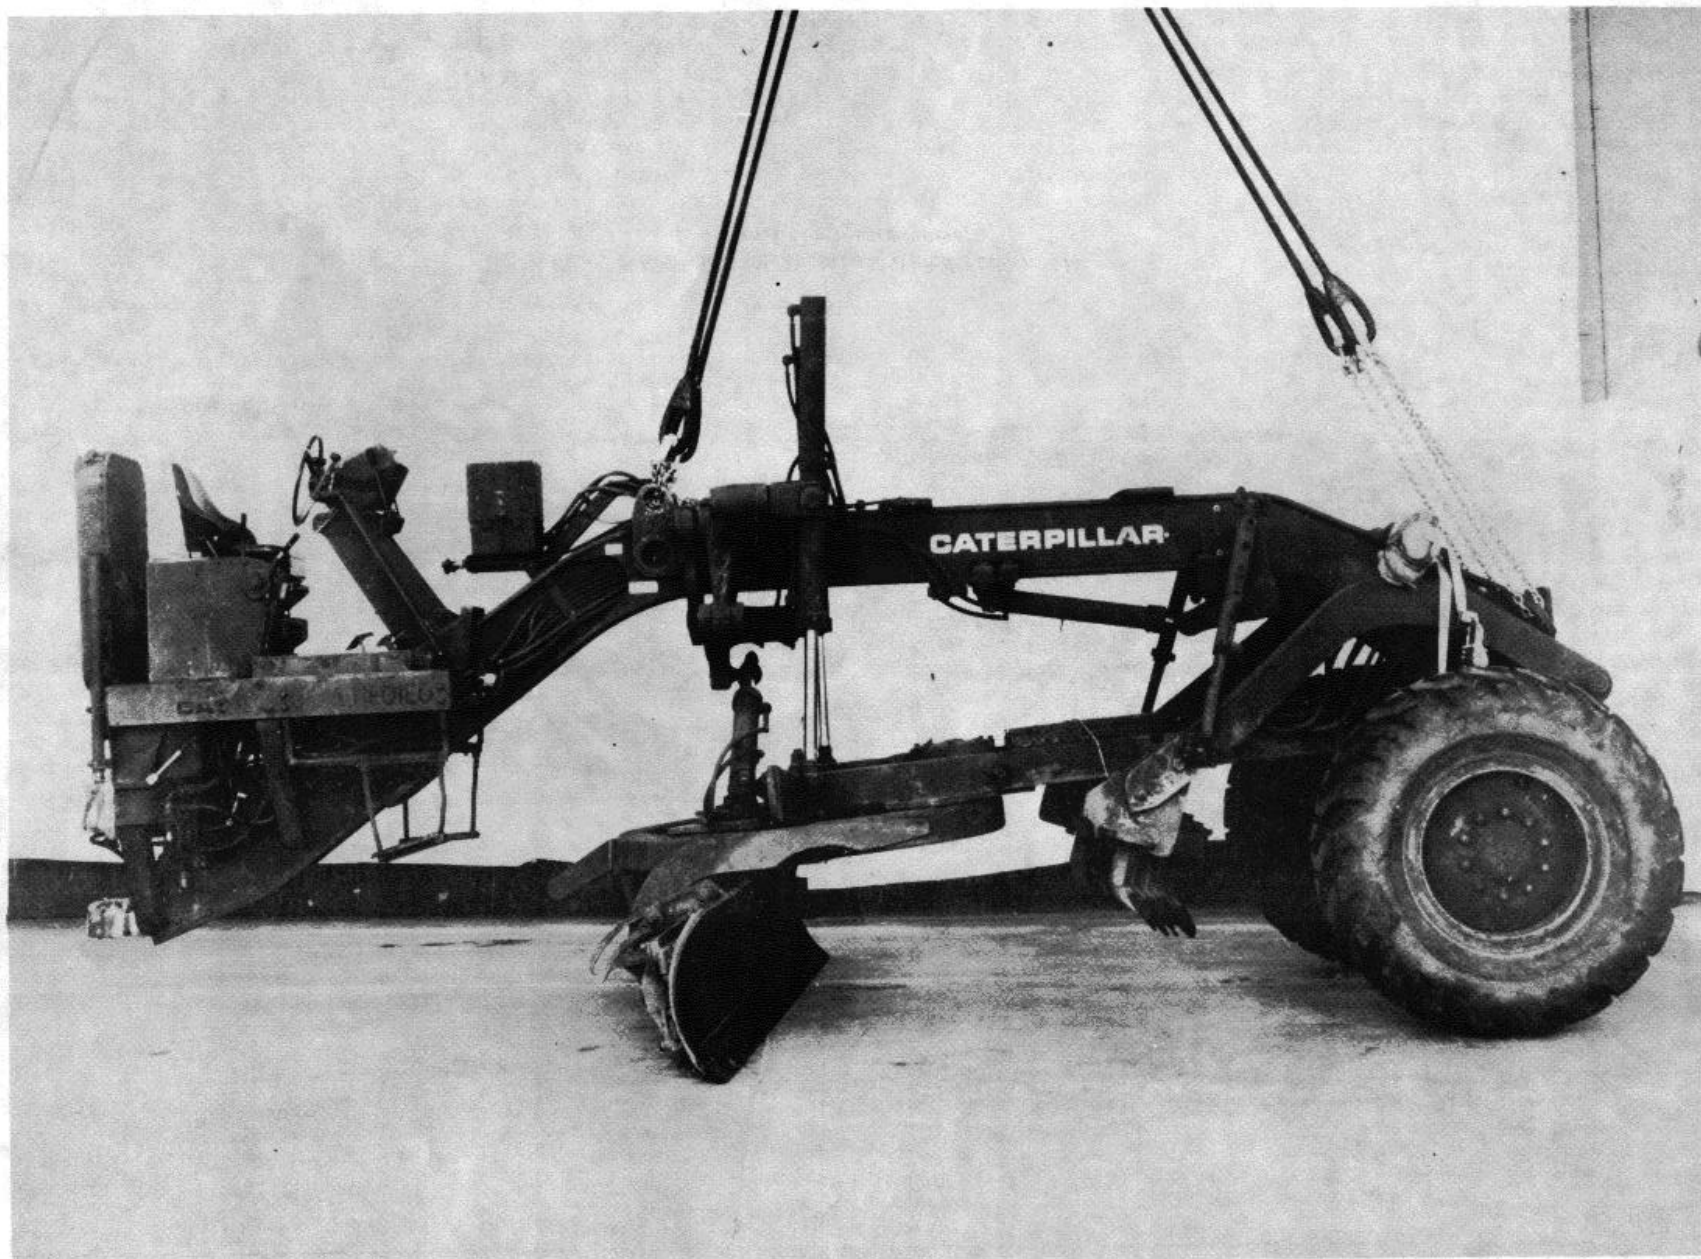

Figure 4-6. Front section of the model 130G Type II grader for external airlift by helicopter.
b. *Load Description.* The model 130G Type II (sectionalized) grader is reduced as described in paragraph 4-5 except the air cleaner, muffler, and exhaust stack are not stored behind the seat. Trained personnel will sectionalize the grader as described in the operator's manual. Figures 4-6 and 4-7 show the front and rear sections of the grader after they are rigged. For flight planning purposes, the weight of each section after it is rigged and ready for lift is as follows:
- (1) Front section 15,980 pounds (7248.41 kg)
- (2) Rear section 14,460 pounds (6558.95 kg)